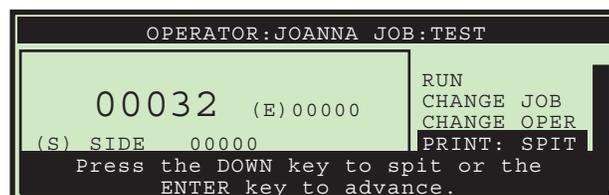

Figure 3-79: Run screen with PRINT = SPIT
2. Press the **Enter** key a few times until "**PRINT: SPIT**" appears with instructions, as in Figure 3-79.